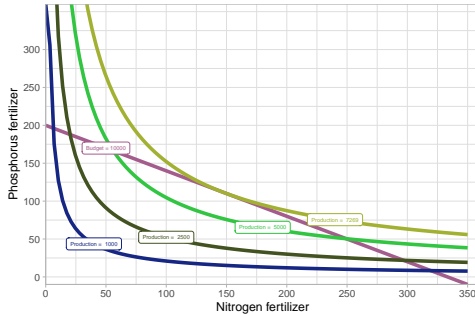

Figure 3: Least cost combination of two factors for Wheat production
- We can show the isoquant lines of using those two inputs in various combinations to produce different levels of Wheat yield (kg). The least cost combination of inputs with outlay of Rs 10000 is shown in Figure 3.